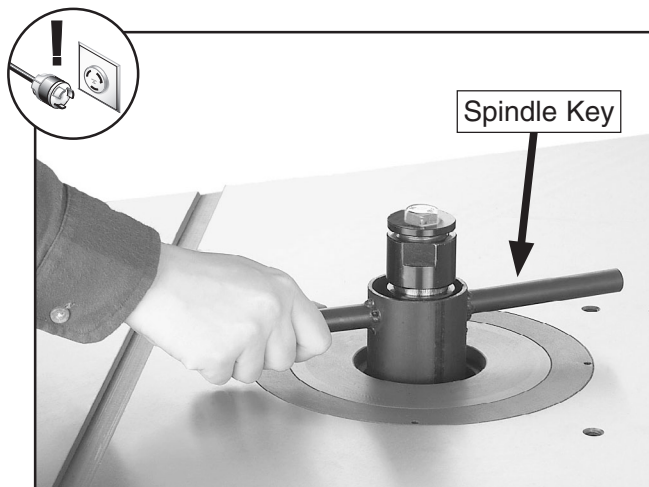

Figure 53 . Loosening the spindle.
- Place the spindle key over the spindle and down inside the spindle housing, as shown in **Figure 53**.